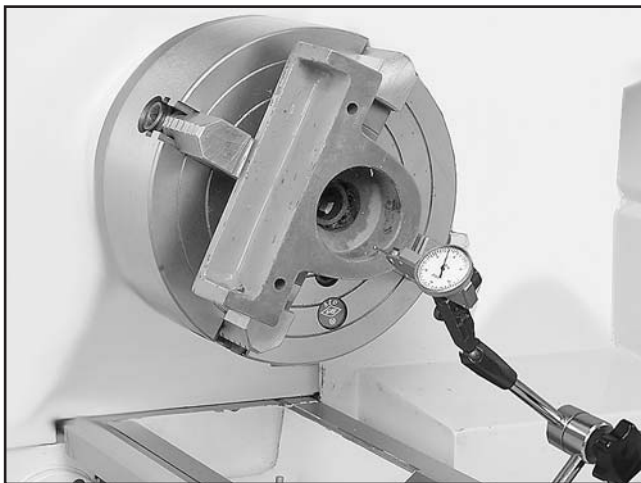

Figure 20. Example of aligning workpiece with a test indicator on a 4-jaw chuck.
5. Make fine adjustments to the workpiece position by using a test indicator and adjusting the jaws until the workpiece is precisely aligned (see **Figure 20** for an example).